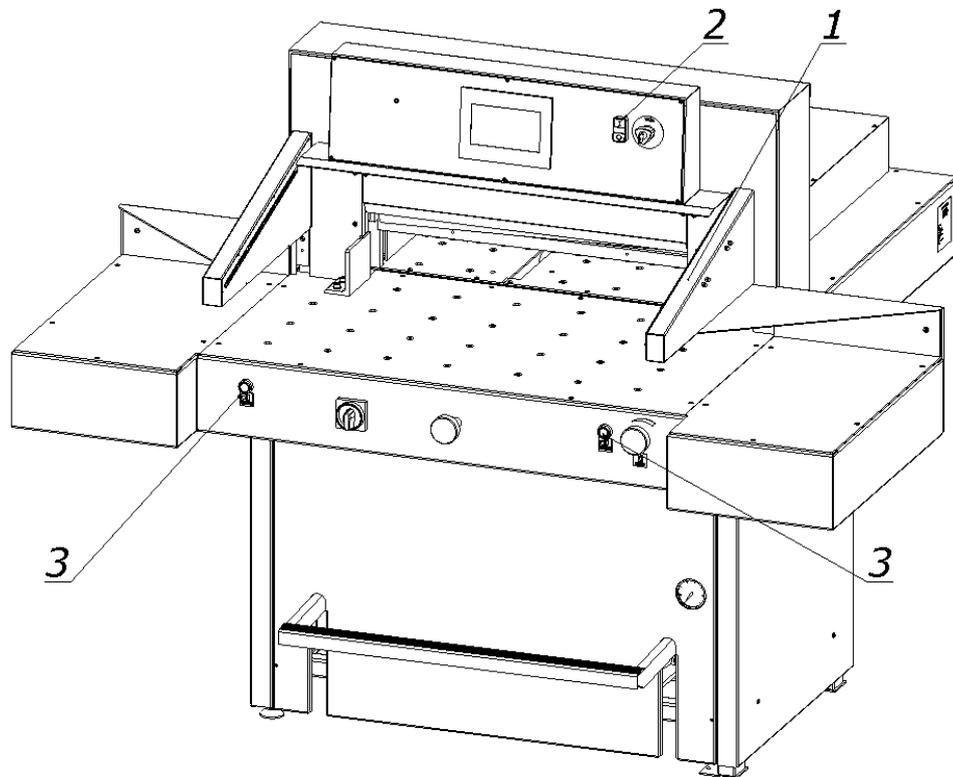

Fig. 19. Operating and signaling elements used during cutting.
1. there is no object in the work area of the light barrier - the green OSSD 1 LED lights up (fig.11) on the receiver 1 (fig. 19).